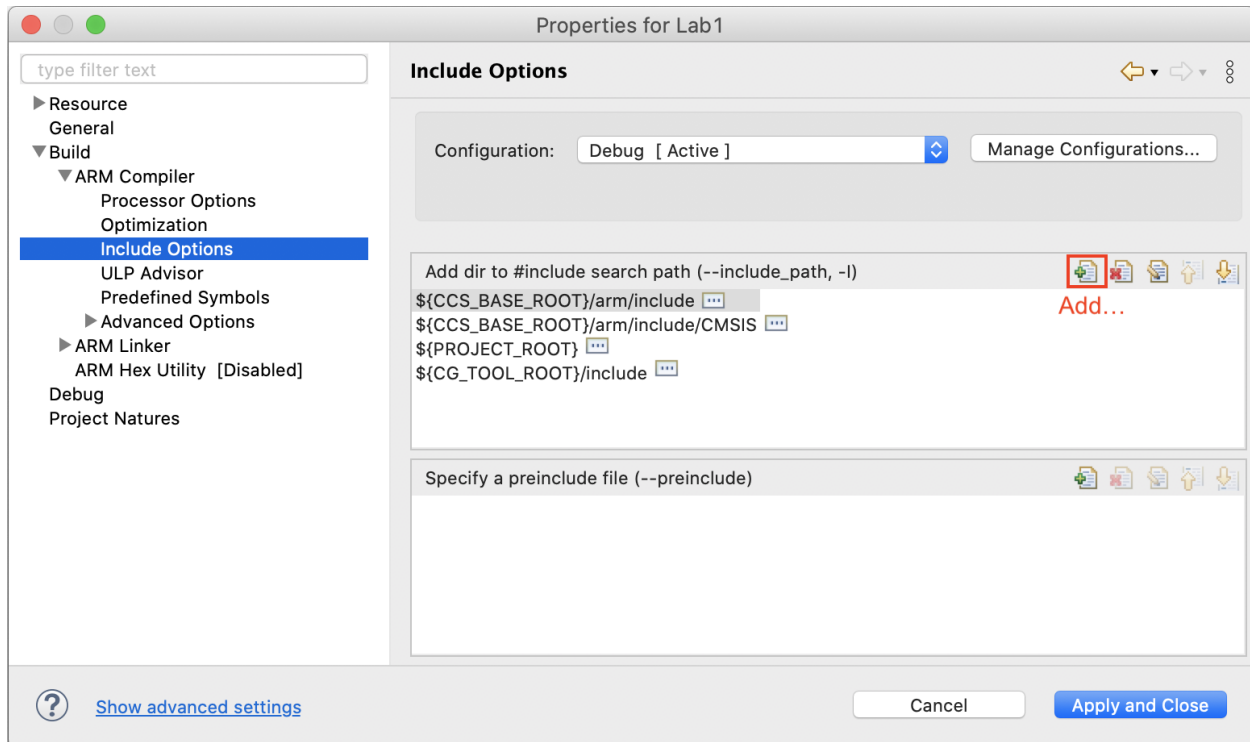
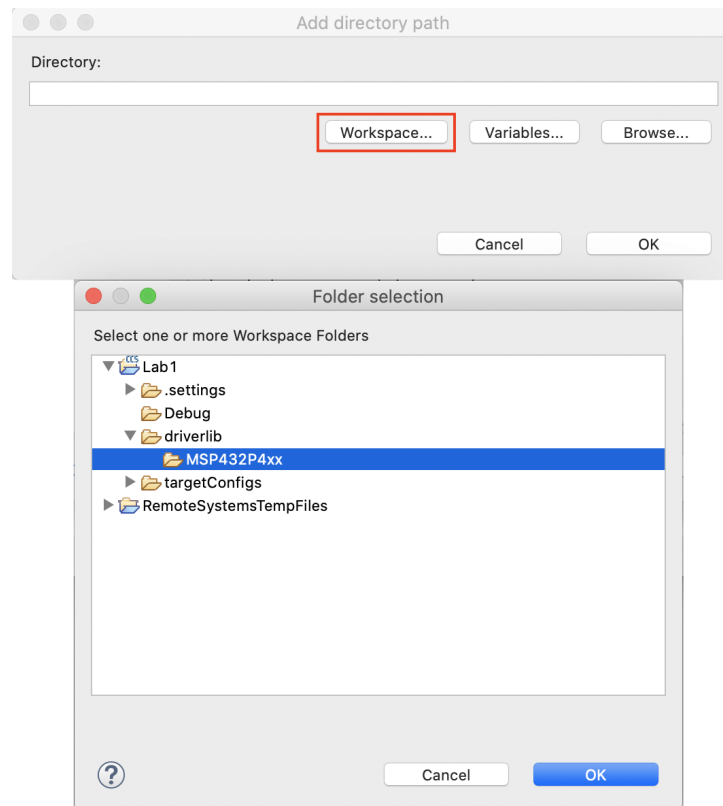

Figure 7: Adding the “driverlib” folder to #include search path, using the Include Options build properties.
Figure 8: Select the Lab1/driverlib/MSP432P4xx folder to be included in the search path.
- Go to menu bar: **Project** → **Properties**, and then on the left column of the window (shown in Figure 7), select **Build** → **ARM Compiler** → **Include Options**.
- On the right side of the window (shown in Figure 7), click the add icon, select **Workspace...**, and select the folder **Lab2/driverlib/MSP432P4xx** (Figure 8).